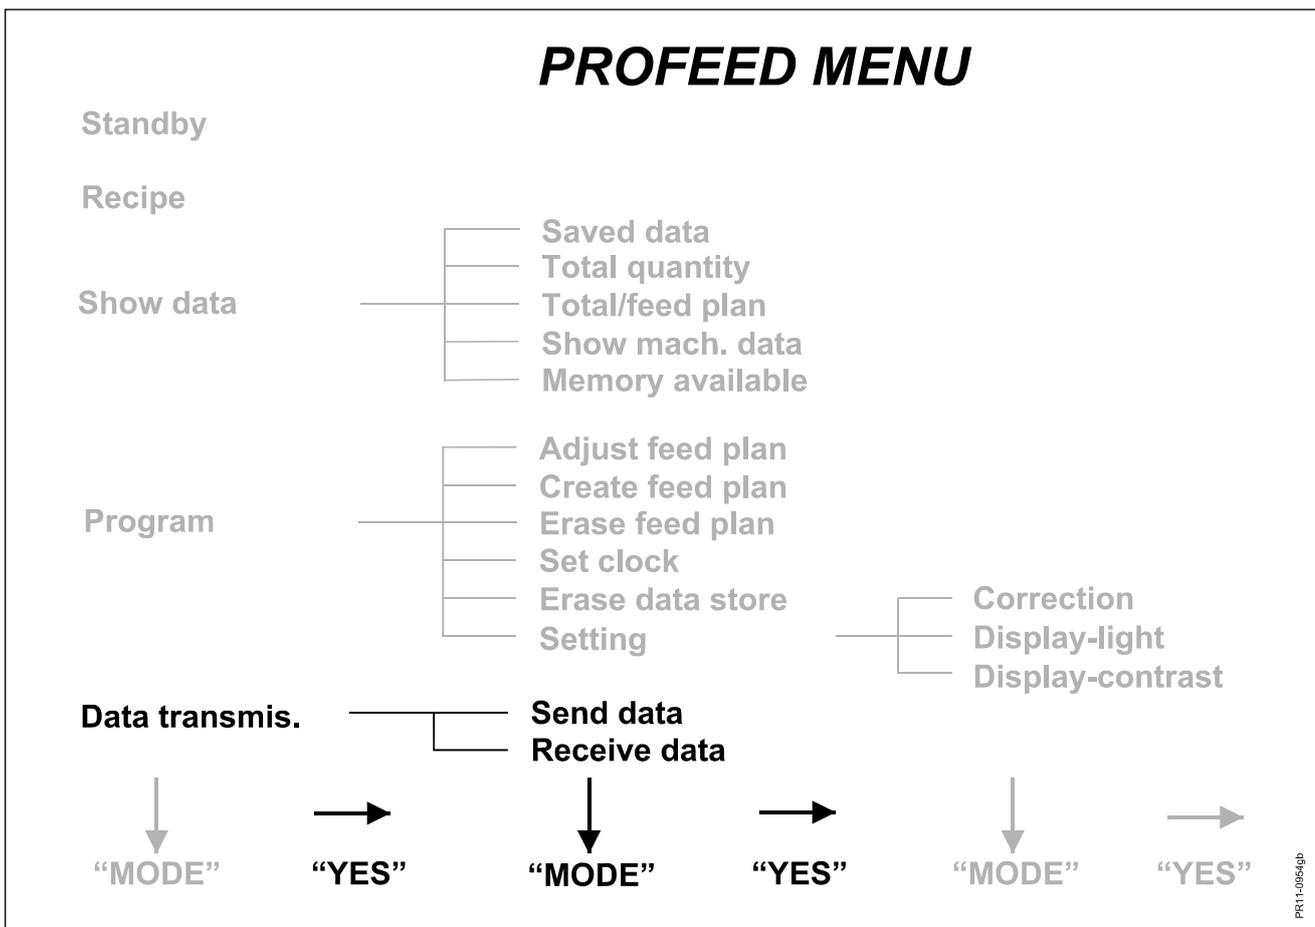

Fig. 7.7
**Fig. 7.7** This menu point makes it possible to move data from PROFEED. The user can transfer feed plans, foodstuff tables, and not the least the saved data. Further JF can transfer the texts.